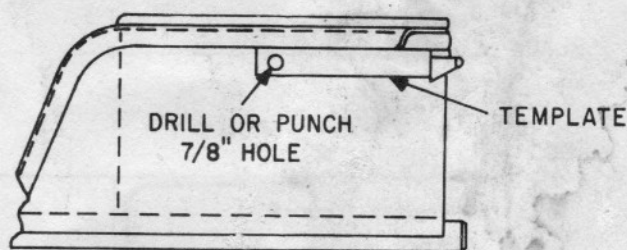

Figure 2. Battery Box - Left Side
NOTE: If the 7/8-inch hole is pre-punched as shown in Fig. 2, it may not be necessary to remove the batteries. Wires can be "fished" through the frame opening with a long, stiff, wire inserted from below the frame.
5. Locate and punch or drill a 7/8-inch hole in the left side of the rear battery box using the template provided as shown in Fig. 2. Remove any metal chips from inside the battery box.